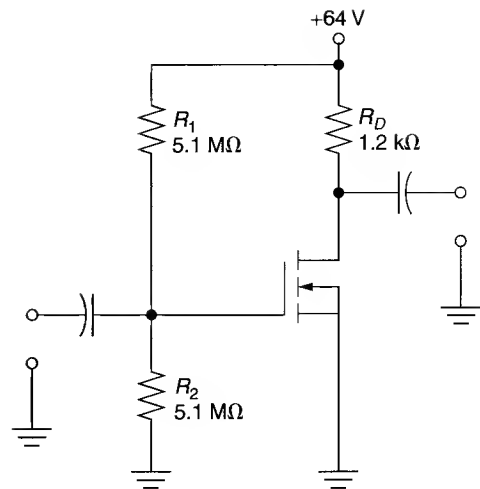

FIGURE 13.41
23. The MOSFET shown in Figure 13.41 has a maximum gate current of 800 pA when $V_{GS} = 32$ V. Determine the input impedance of the device and the circuit. Then, determine the input impedance of the circuit, assuming that the MOSFET has infinite input impedance. What is the difference between the two values of Z_{in} ?